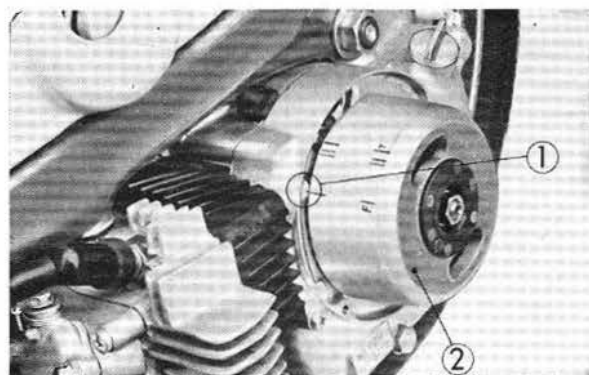

Fig. 1-11 ① Alignment mark ② Flywheel
- (1) Remove the dynamo cover and align the "F" mark on the flywheel with the timing index mark on the crankcase. In this position, check to make sure that the contact points are just about to open. (Fig. 1-11)